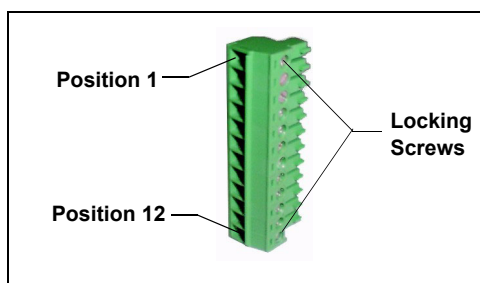

Figure 64. 12-Position Connector Plug
6. Locate the 12-position connector plug (P/N 923686) in the ICS-2000 Ship Kit (P/N 057905) (see Figure 64).